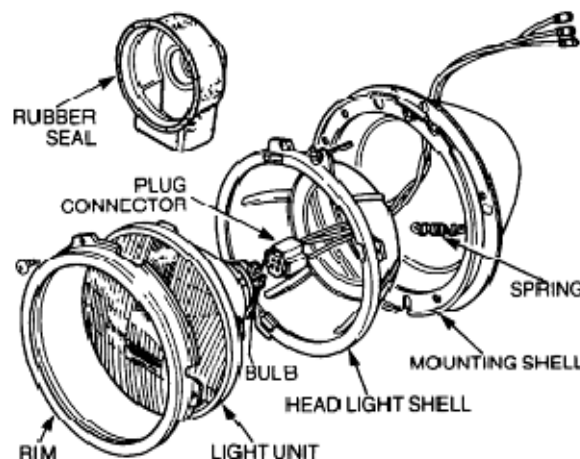

Figure 147 Headlight Unit Exploded View
- a. Remove the four screws securing the headlight surround and remove the surround (Figure 147).